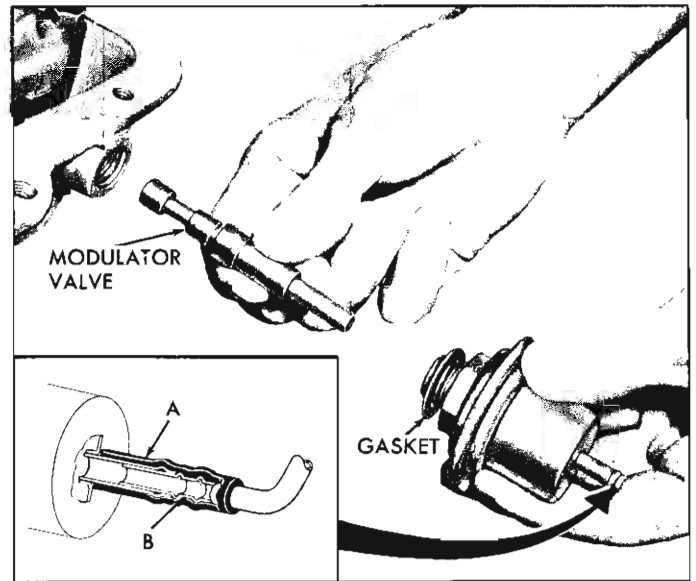

Fig. 15—Vacuum Modulator, Gasket and Valve
23. Remove the vacuum modulator and gasket, and the vacuum modulator valve (fig. 15).